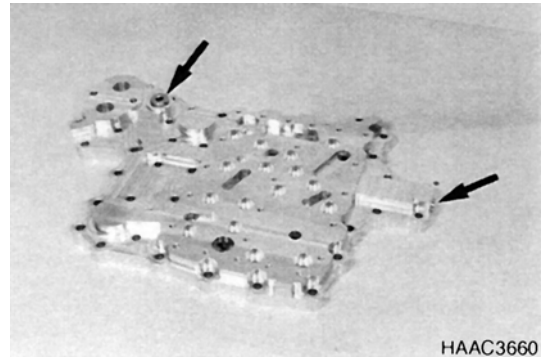

Figure 273
1. Install both screw plugs (Figure 273).